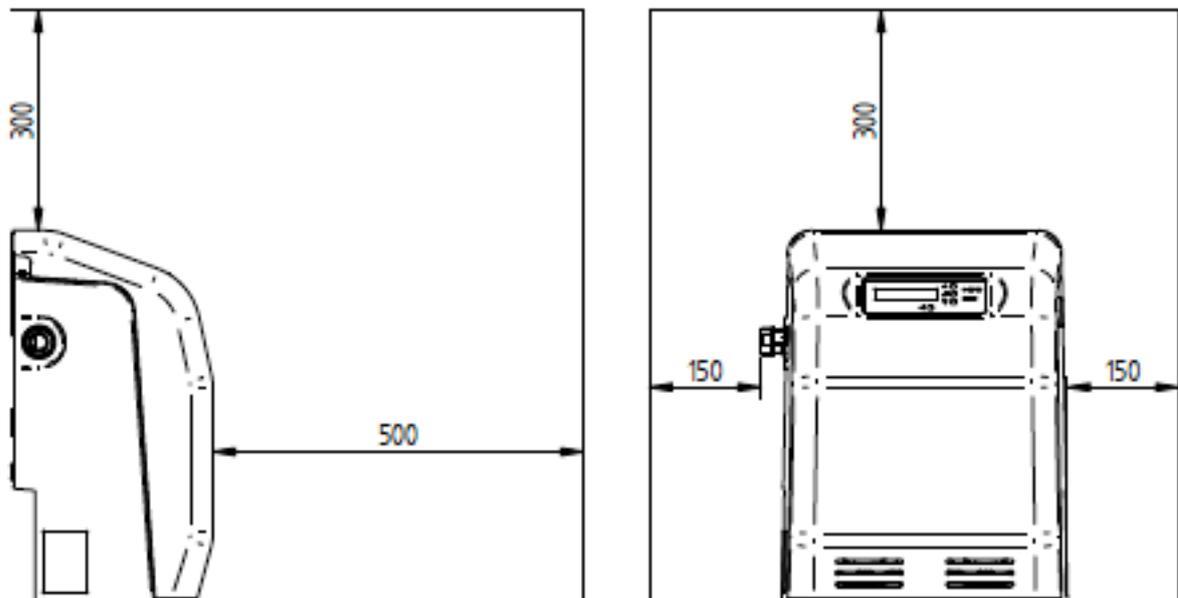

Fig. 2
2.12 **Access and minimum clearance requirements:** For emergencies and maintenance the Flowpress Midi must be easily accessible and have the minimum clearance around it as laid out in Fig. 2. Additional access to the front of the unit will be required to operate the keypad and view the display.